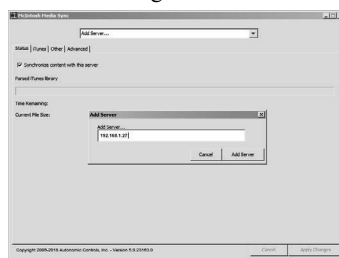

Figure 59
10. Add in the new IP Address in the “Add Server” window and then click on “Add Server”. Refer to figure 59.